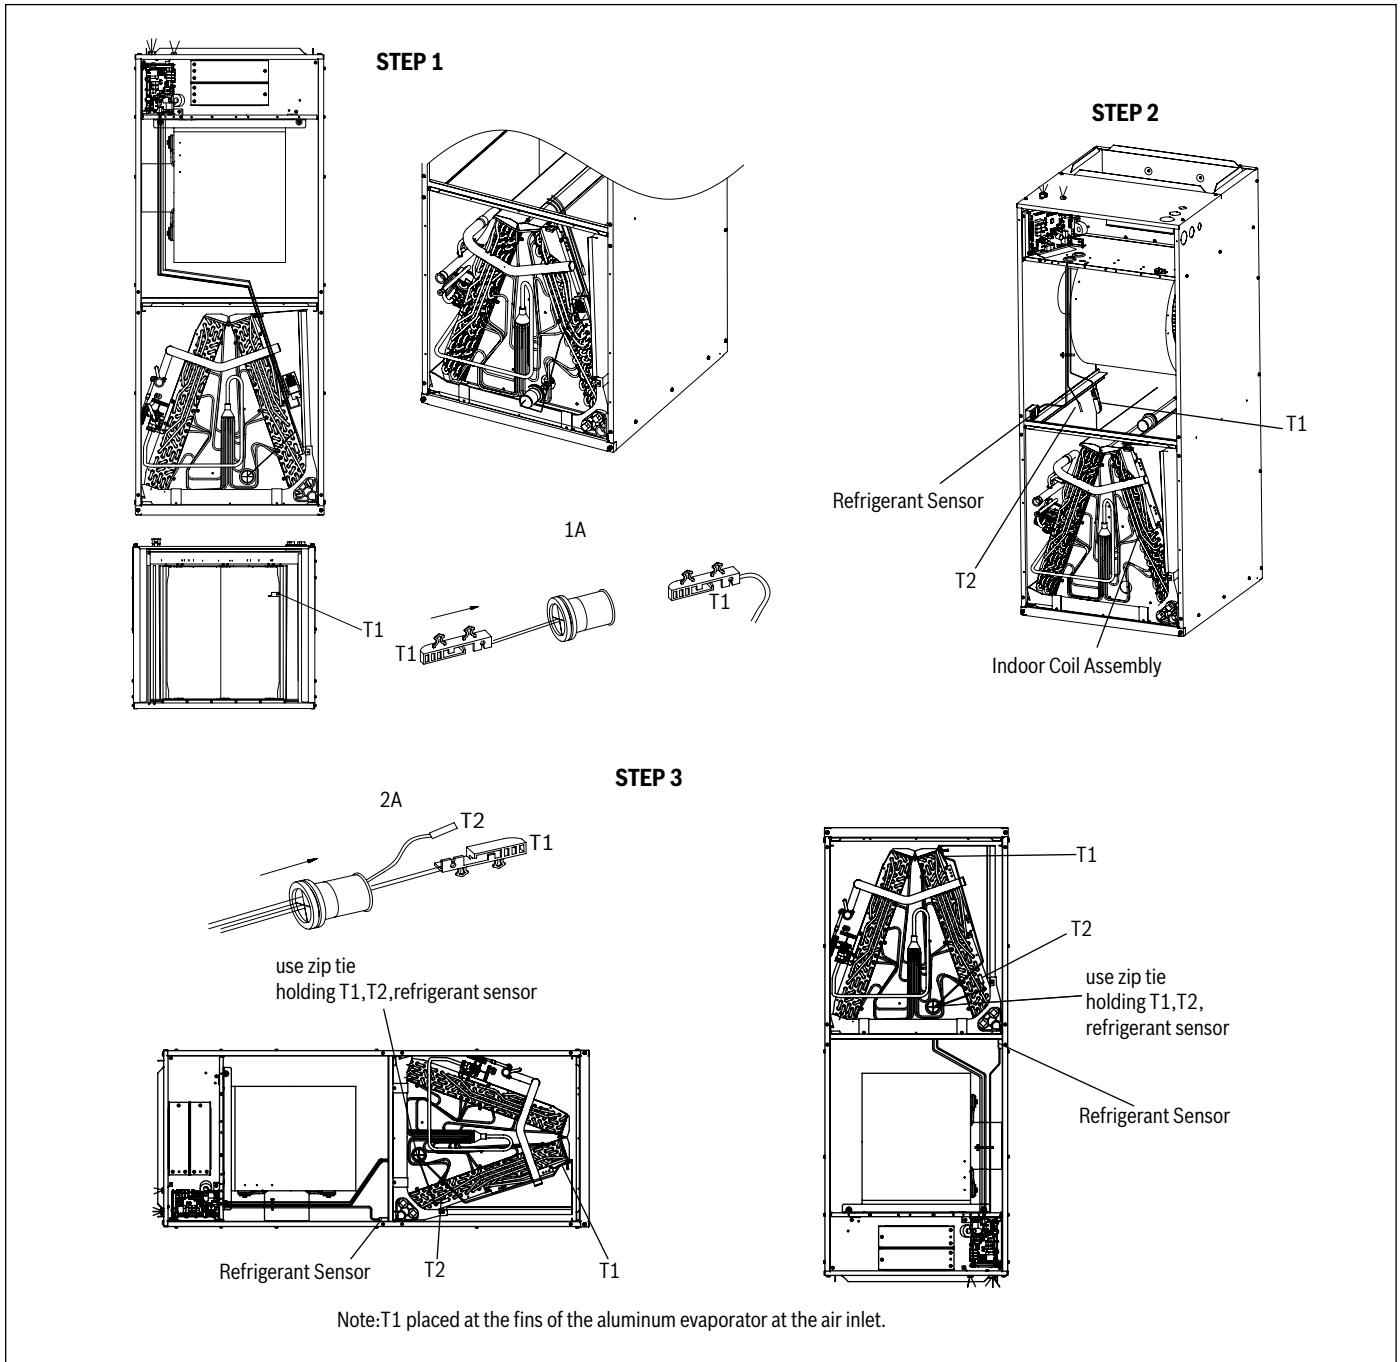
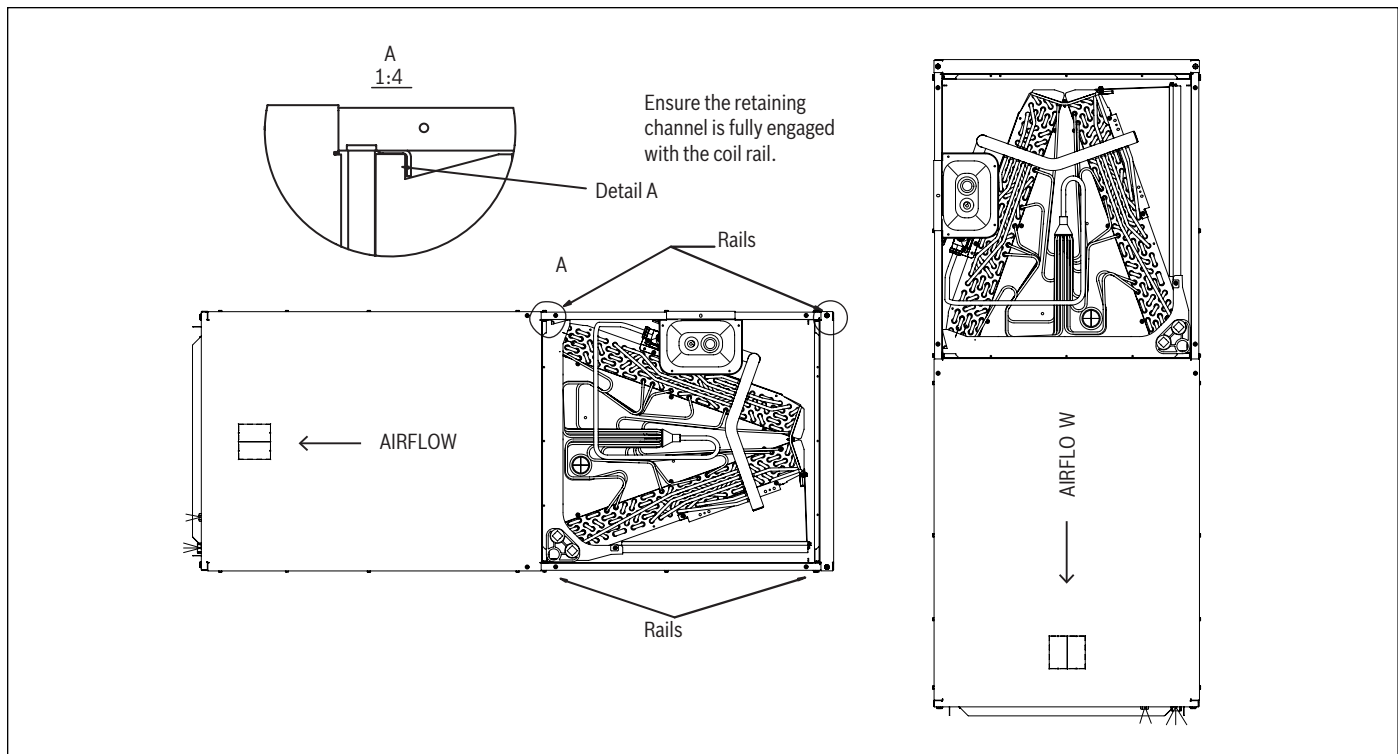

Figure 12 Vertical downflow & horizontal left applications conversion
Figure 13 Vertical downflow & horizontal left applications
A vertical upflow unit may be converted to horizontal left by removing indoor coil assembly and the refrigerant leak detection sensor. Reinstall the indoor coil and the refrigerant sensor for left hand air supply. See Figure 12.
- Reinstall the indoor coil 180° from original position. Ensure the retaining channel is fully engaged with the coil rail. See Figure 12 and Figure 13.
2. Remove the A2L refrigerant sensor from the coil and reconnect it to the side of cabinet as shown in step 2. (Figure 12, Step 2).
3. Thread the T1 and T2 sensors through the wire loop as shown in Figure 12 step 2A. Reattach refrigerant, T1, and T2 sensors to the proper location as shown in Figure 12, step 3 using field supplied zip ties to ensure that they can not move around. Ensure that the wire loop is tightened.